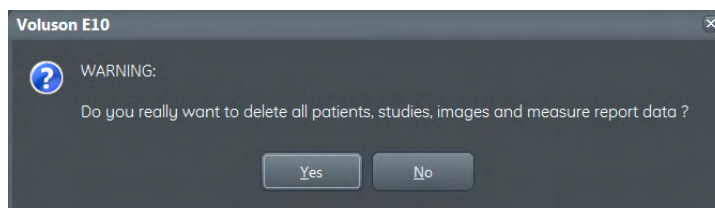

Figure 5-27 Warning message
5. Enter the password « she » and click the **Accept** button to display the Service Tools page (see Figure 5-27 on page 5-50).
4. Enter the password « she » and click the **Accept** button to display the Service Tools page (see Figure 5-27 on page 5-50).
1. Click **Load Application Settings** on the “Service Tools” page (see Figure 5-27 on page 5-50).